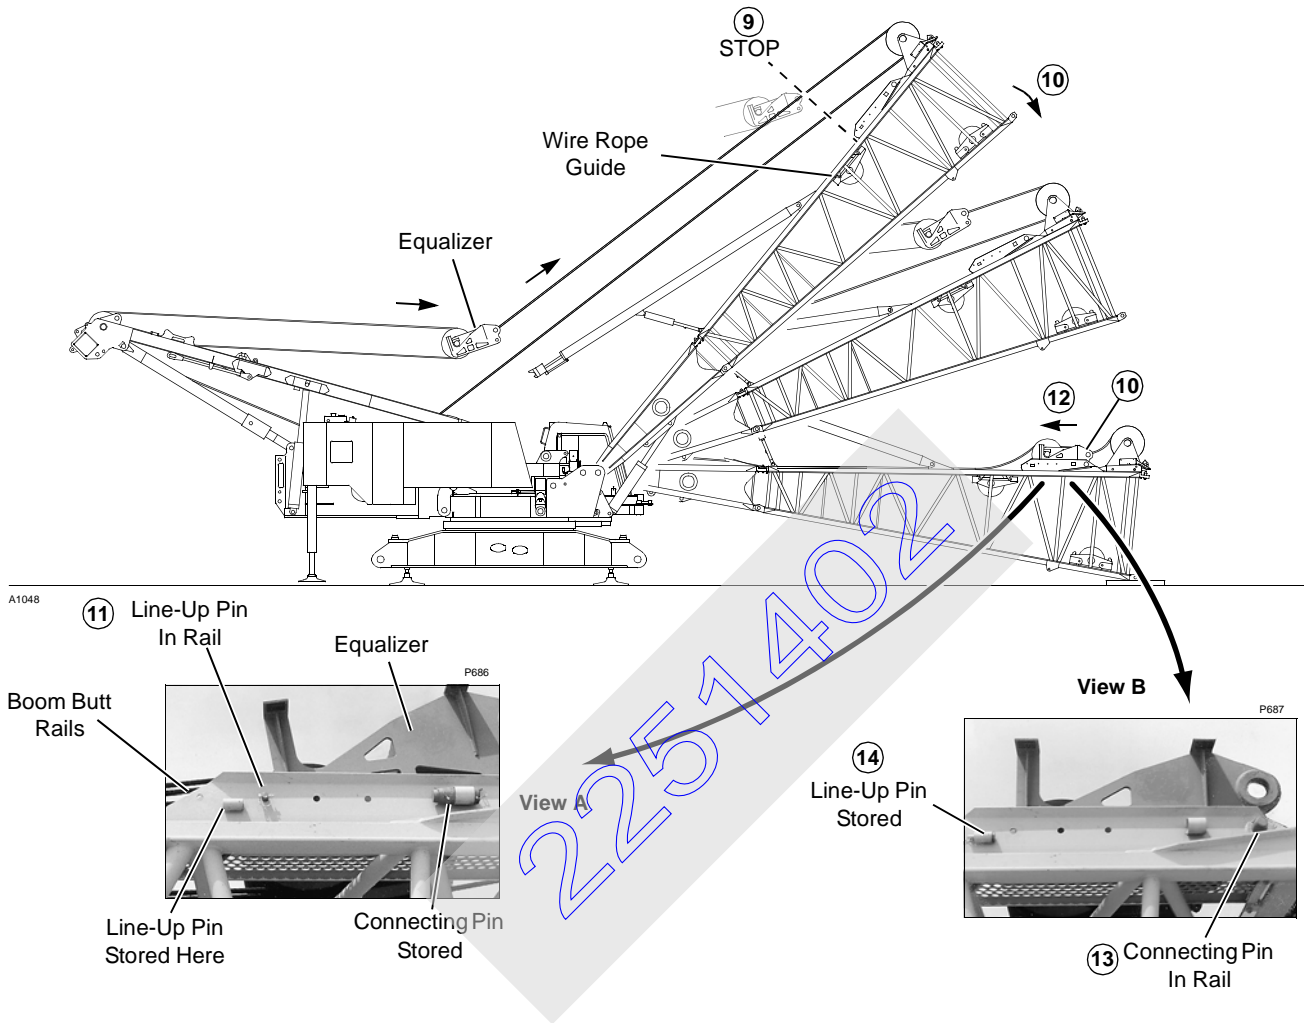

FIGURE 4-16
NOTE: Circled numbers in Figure 4-16 correspond to numbered procedure steps.
11. Haul in load line as necessary and insert line-up pins in second from last holes in boom butt rails (Figure 4-16, View A).
12. Slowly slacken load line to rest equalizer against lineup pins (Figure 4-16, View B).
13. Pin equalizer to boom butt rails using connecting pins (Figure 4-16, View A).